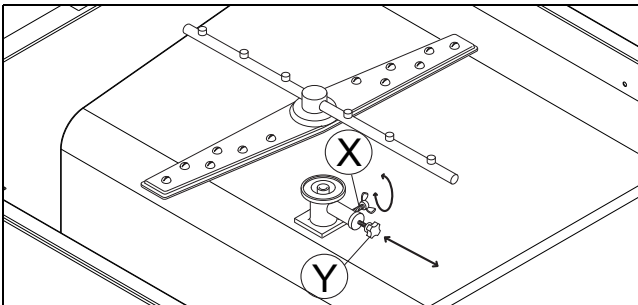

Figure 20 Wash water pressure adjustment
- unscrew the wing nut "X" (Figure 20);
- press the limiting valve "Y" (Figure 20) inward to reduce the water pressure in the lower wash arm and thus increase the water pressure in the upper wash arm, so that the items remain in their position.
- retighten the wing nut "X" (Figure 20).
- remove the limiting valve "Y" (Figure 20);